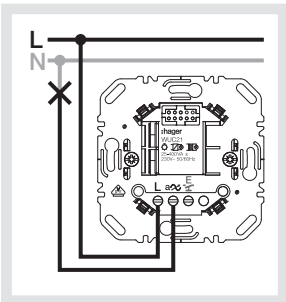

Figure 3: Switch insert 1gang
- Circuit switch insert and optional extension units according to the connection diagram (Figure 3 to 6).